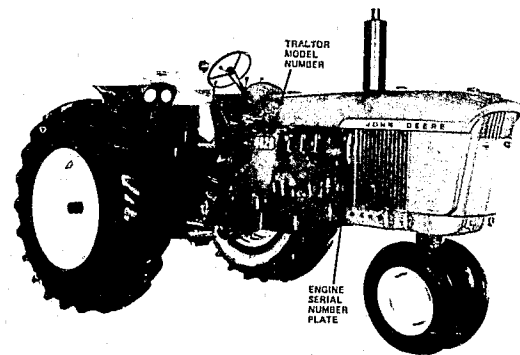

Figure 1
- The model number appears on the sides of the tractor and also on the tractor identification plate. (See Figure 1)